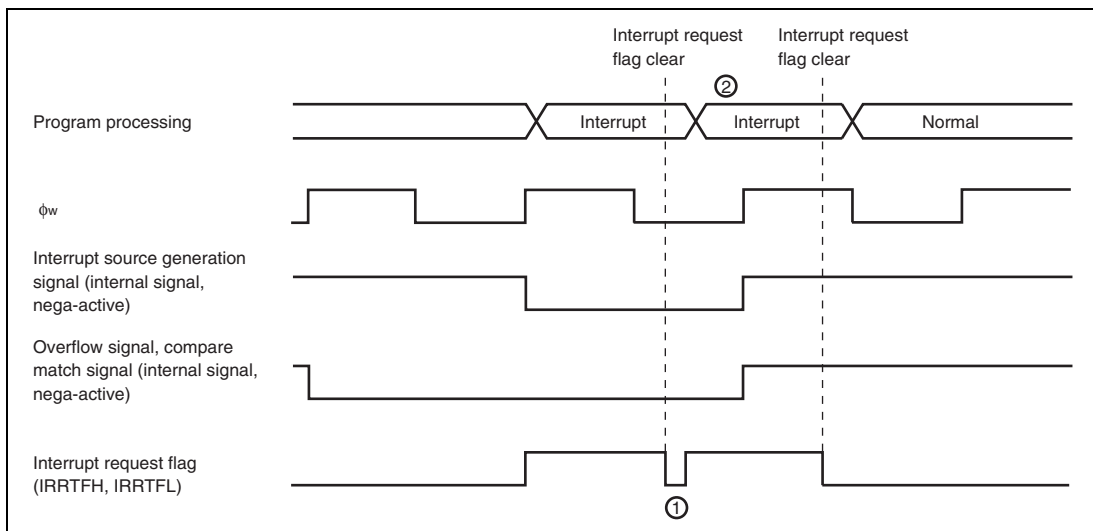

Figure 9.6 Clear Interrupt Request Flag when Interrupt Source Generation Signal is Valid
When $\phi_w/4$ is selected as the internal clock, “Interrupt source generation signal” will be operated with ϕ_w and the signal will be outputted with ϕ_w width. And, “Overflow signal” and “Compare match signal” are controlled with 2 cycles of ϕ_w signals. Those signals are outputted with 2 cycles width of ϕ_w (figure 9.6)
In active (high-speed, medium-speed) mode, even if you cleared interrupt request flag during the term of validity of “Interrupt source generation signal”, same interrupt request flag is set. (1 in figure 9.6) And, the timer overflow flag and compare match flag cannot be cleared during the term of validity of “Overflow signal” and “Compare match signal”.
For interrupt request flag is set right after interrupt request is cleared, interrupt process to one time timer FH, timer FL interrupt might be repeated. (2 in figure 9.6) Therefore, to definitely clear interrupt request flag in active (high-speed, medium-speed) mode, clear should be processed after the time that calculated with below (1) formula. And, to definitely clear timer overflow flag and compare match flag, clear should be processed after read timer control status register F (TCSRFB) after the time that calculated with below (1) formula.